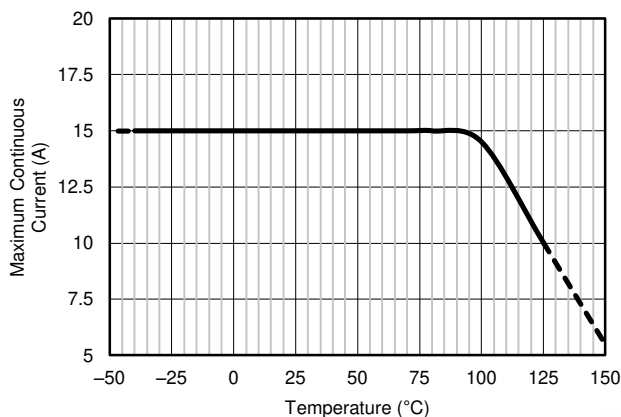

图 7-1. Maximum Current vs Temperature
- (3) The supply voltage range maximum is 36 V, but the reference voltage cannot be higher than 18 V.
- (4) See 图 7-1 and the *Layout* section for additional information on the current derating and layout recommendations to improve the current handling capability of the device at higher temperatures.
- (5) See the 节 7.3.1 section for additional information regarding the integrated current-sensing resistor.
- (6) System gain error includes amplifier gain error and the integrated sense resistor tolerance. System gain error does not include the stress related characteristics of the integrated sense resistor. These characteristics are described in the *Shunt Resistor* section of the *Electrical Characteristics* table.
- (7) The internal shunt resistor is intended to be used with the internal amplifier and is not intended to be used as a stand-alone resistor. See the *Integrated Shunt Resistor* section for more information.
External factors (such as ambient temperature, external air flow, and PCB layout) can contribute to how effectively the heat developed as a result of the current flowing through the total package resistance can be removed from within the device. Under the conditions of no air flow, a maximum ambient temperature of 85°C, and 1-oz. copper input power planes, the INA250 can accommodate continuous current levels up to 15 A. As shown in 图 7-1, the current handling capability is derated at temperatures above the 85°C level with safe operation up to 10 A at a 125°C ambient temperature. With air flow and larger 2-oz. copper input power planes, the INA250 can safely accommodate continuous current levels up to 15 A over the entire -40°C to 125°C temperature range.